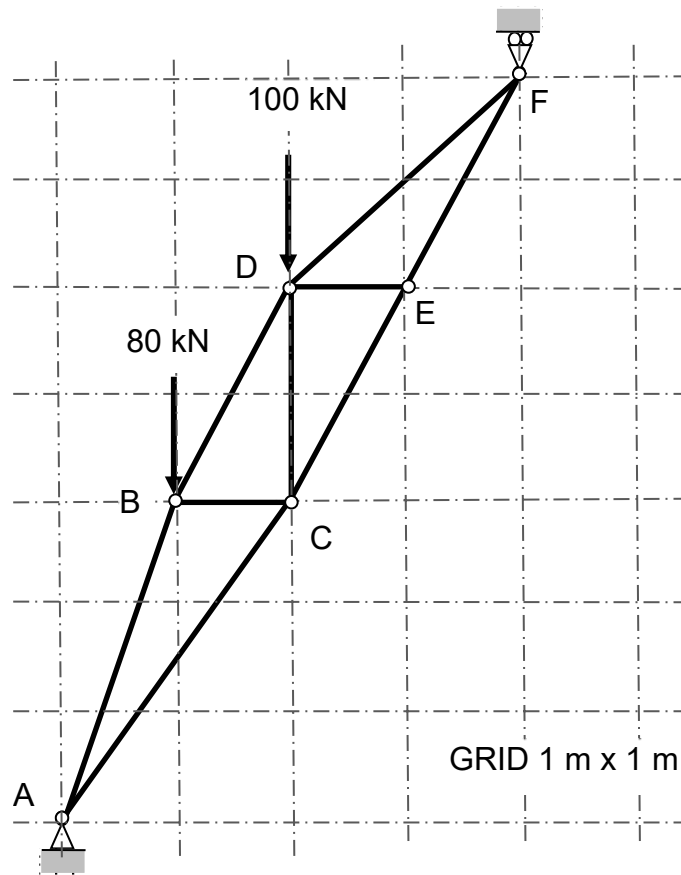

Figure 4
2. (a). **Figure 4** shows a plane truss of a slanting roof for an airport. Check the statical determinacy of the truss. Support A is pinned and support F is roller. All member connections are pinned. Find the reactions at both supports and identify zero force members, if any. Determine forces in members BD, DC and CE by using section method and members DF, DE and EF by using joint method. Classify whether they are in tension or compression.
- (b). If one member DE is removed from the truss shown in **Figure 4**, determine what will happen to the overall stability of the truss. Will there be any changes of the forces in members DF and EF?
- (c). If the 100 kN and 80 kN loads in the truss shown in **Figure 4** are reduced by 50%, respectively, what will happen to the value of the reactions and the forces in members DC and CE?
- (d). If the length of all the members in the truss shown in **Figure 4** are doubled, explain the changes of the forces in members DE and EF.